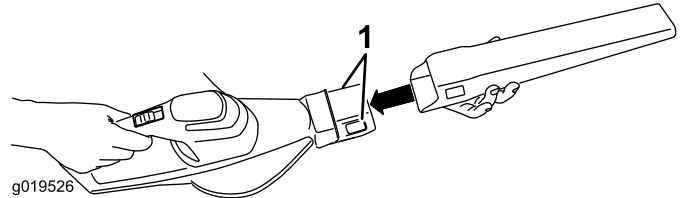

Figure 1
- Slide the blower tube onto the sweeper. You may need to press down on the tabs for the blower tube to install properly (Figure 1).